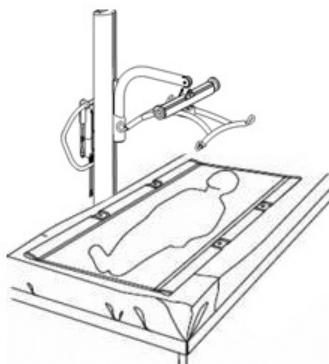

Fig. 14
7. Carefully position the Stature/Presence hoist, with the Oxford Stretcher Adjustment Cradle fitted, above the patient. (see Fig. 14).